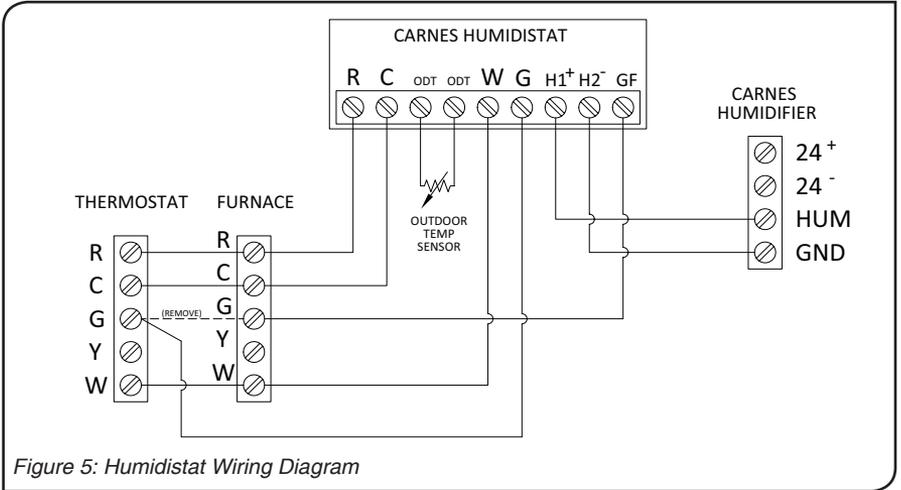

Figure 5: Humidistat Wiring Diagram
- See *Figure 5* for wiring diagram.
- The humidistat controller is powered from the R and C connections from the furnace and needs continuous power to operate properly. Proper R and C wiring is shown in *Figure 5*.
- The outdoor temperature sensor wires will connect into the ODT terminals on the humidistat terminal block as shown in *Figure 5*.
- The W terminal is the heat signal from the thermostat. Wire the W terminal from the furnace control panel to the W terminal on the humidistat terminal block as shown in *Figure 5*.
- The wire running from the G terminal on the furnace control board to the G terminal on the thermostat will need to be disconnected. The G terminal from the thermostat will then need to be wired directly to the G terminal on the humidistat terminal block. The G terminal on the furnace control panel will then need to be wired directly to the GF terminal on the humidistat terminal block. See *Figure 5*.
- The humidifier control terminals are labeled on the humidistat as H1+ and H2-. These terminals will need to be wired directly to the humidifier as shown in *Figure 5*. H1+ on the humidistat terminal connects to the HUM terminal on the humidifier control panel and H2- on the humidistat terminal connects to the GND terminal on the humidifier control panel.